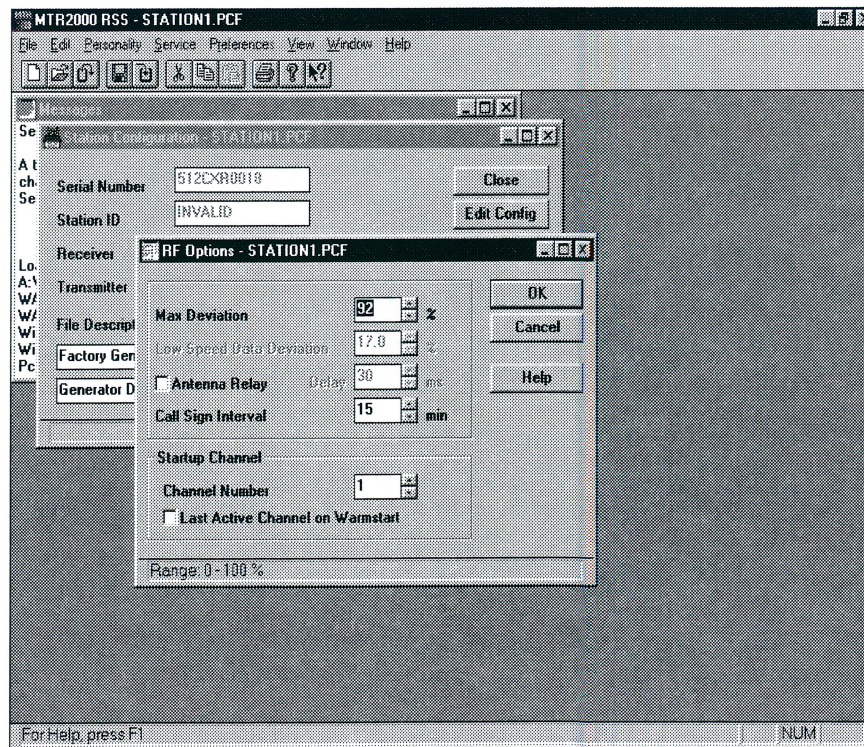

Fig. 2
5. Click on **Personality**, and click on **RF Options**. Compare the window that opens with Fig. 2 and make any necessary changes in the RSS. When done, click **OK** to close the window.